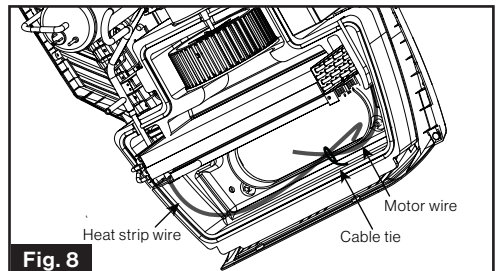

Fig. 8
10. Fix the harnesses together with nylon cable ties (not provided). Then pass the 2 harnesses down through the air intake vent to the RV (Fig. 8).